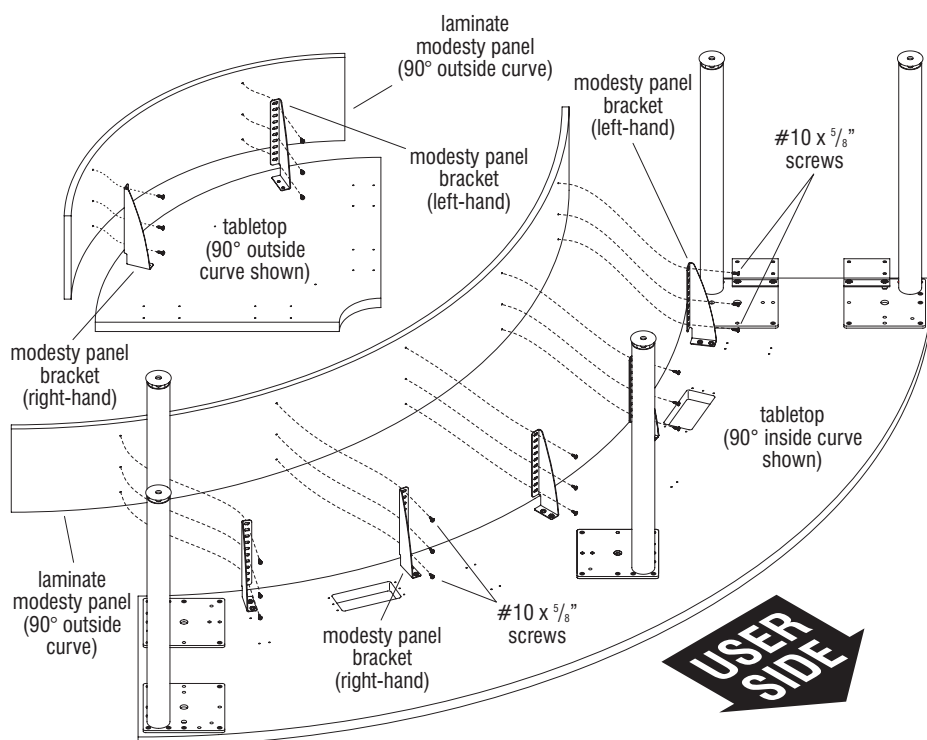

Figure 3
1. With the assistance of a second person, carefully position the laminate modesty panel up to the modesty panel brackets in the correct orientation (Figure 3 & Detail D).
2. Secure the modesty panel to the modesty panel brackets using three #10 x 5/8" screws per bracket on the user side of the table (Figure 3 & Detail D).